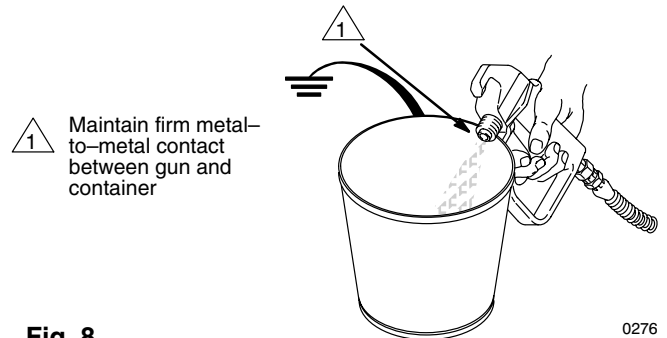

Fig. 8
4. With the bypass valve closed, turn on the sprayer, trigger the gun into the flushing pail and allow the solvent to circulate through the hose and gun for two to three minutes, using the lowest possible pressure. See Fig. 8. Release the gun trigger and lock the safety lever. Turn off the sprayer.